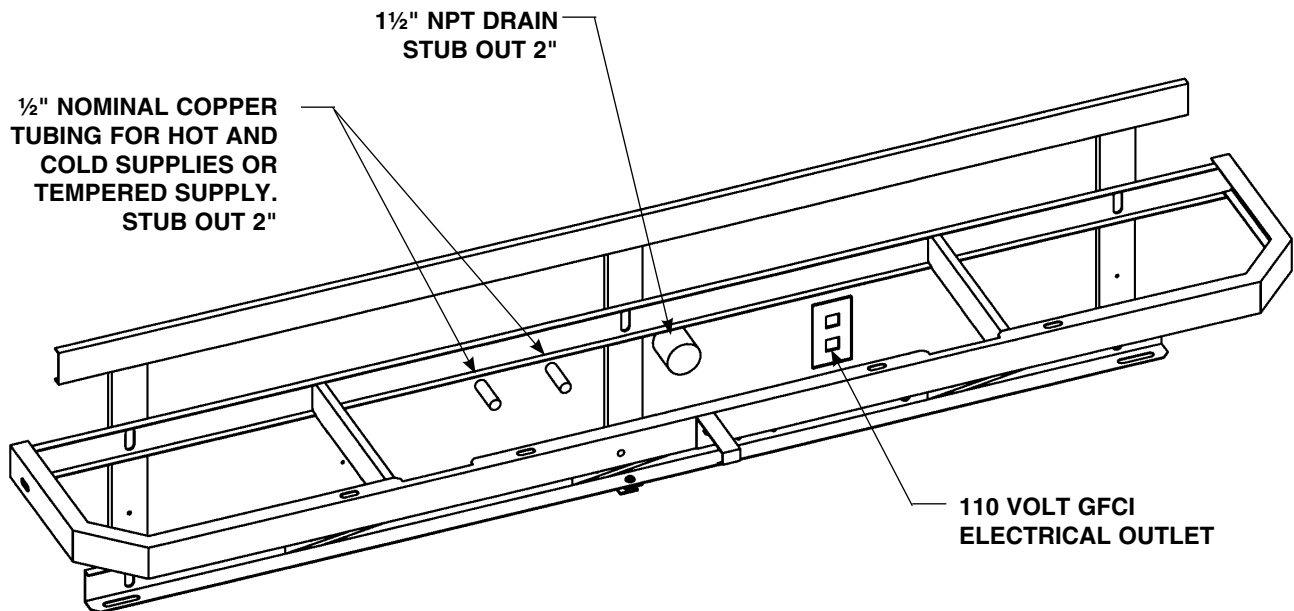

Figure 2
1. Install a 110 volt GFI protected electrical outlet per local code at the location shown in Figure 2.